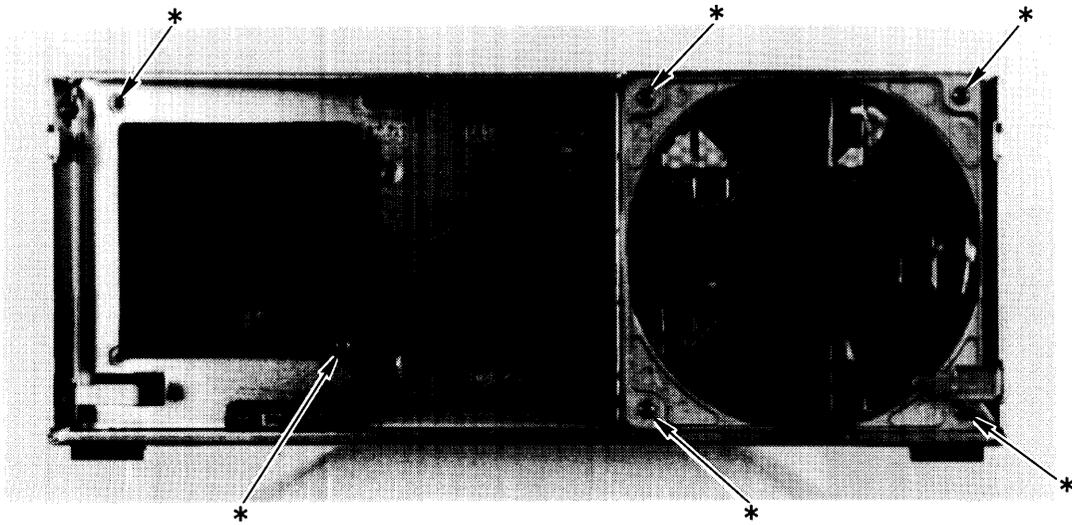

Figure 2-11. Fan Mounting Screws
3. Remove one of mounting screws from the fan to be replaced. Refer to Figure 2-11.